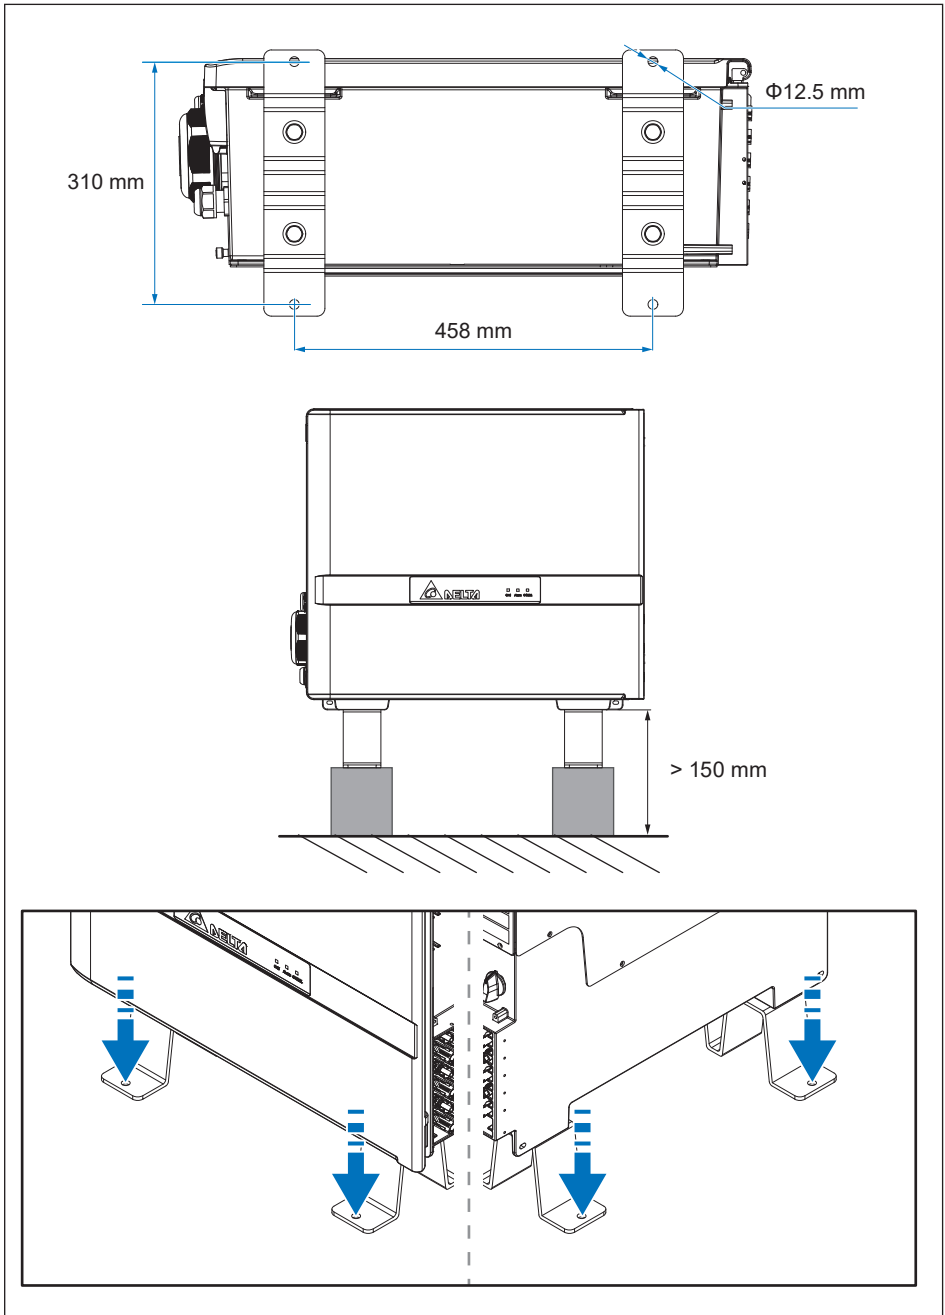

Figure 3-10: To secure inverter grounded brackets to ground-mounting base
2. Mount the inverter with grounded brackets to the ground-mounting base by 4 expansion bolts. (**Figure 3-10**)